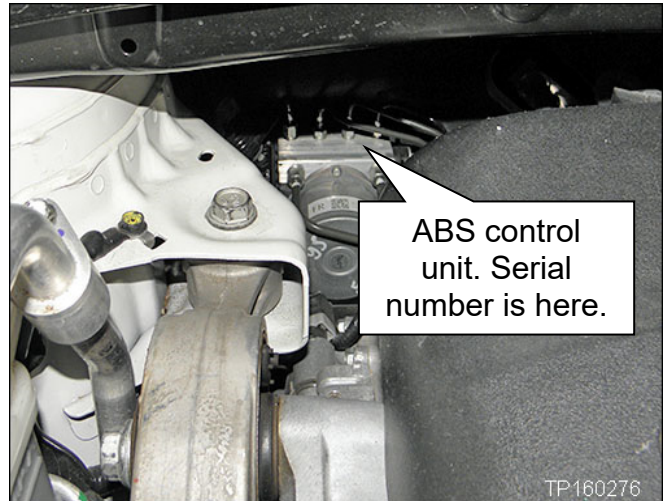

Figure 1A
2. Locate the serial number on the top of the ABS control unit next to the QR label (see Figures 1A and 2A).